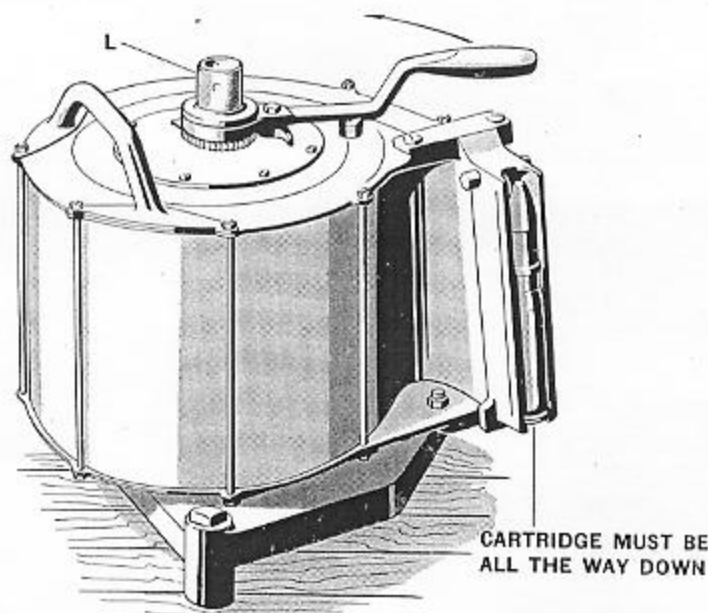

Figure 58—Tensioning the Magazine Spring
NOTE—It is essential that all cartridges be pushed all the way down to the bottom of the magazine mouth so that their bases are in alignment and firmly seated on the magazine rear plate, as shown in Figure 58. This is important because the breech block moves very rapidly and the magazine must feed the cartridge to it properly, so that the face piece can readily pick up the cartridge.
9. When the loaded magazine is to be used **immediately**, the spring is tensioned completely in the loading frame. Place the loading lever on the spring axis, as shown in Figure 58. Revolve the loading lever counter-clockwise. Continue revolving the loading lever until a stop becomes distinctly noticeable. This indicates that the clock spring is completely tensioned. Remove the loading lever. Remove the loaded magazine from the loading frame and install on a gun.
NOTE—Hold the coupling sleeve (L), Figure 58, with the fingers to prevent its turning when tensioning the spring on a partly loaded magazine. If it is permitted to turn, the cartridge feeder will be backed away from the cartridges and a jam may result.
NOTE—A slight tensioning with the loading lever in the position shown in Figure 58 is sufficient. If the magazine is fully loaded or only partly filled, this slight initial tensioning is necessary to prevent a jam in the magazine.